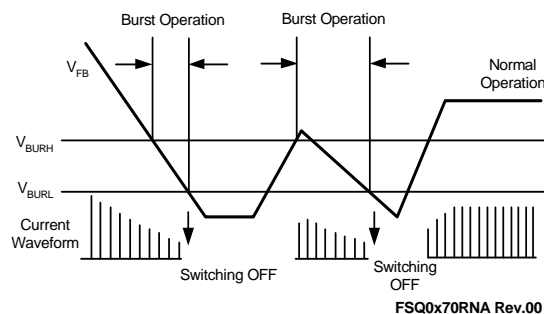

Figure 17. Burst Operation Function
6. Burst Operation: To minimize power dissipation in standby mode, the FPS enters burst-mode operation. Feedback voltage decreases as the load decreases, as shown in Figure 17, and the device automatically enters burst-mode when the feedback voltage drops below V_{BURH} (typically 600mV). Switching continues until the feedback voltage drops below V_{BURL} (typically 400mV).